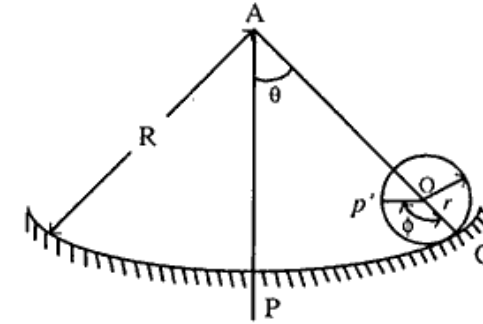

Figure 1
2. A cylinder of mass  $M$  and radius  $r$  rolls without slipping on a cylindrical surface of radius  $R$ . Find the natural frequency for small oscillations about the lowest point. (fig. 1)